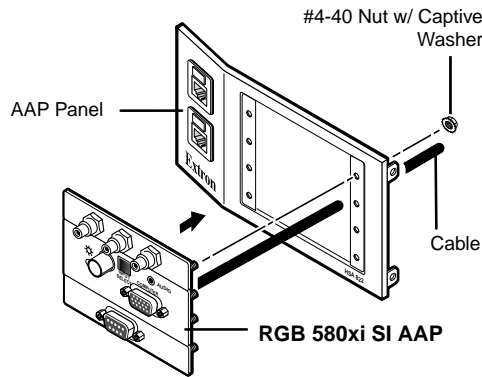

Figure 13. Mounting an AAP Device
4. Remove the AAP(s) that you no longer want from the AAP panel by unscrewing the nuts on the rear of the AAP panel that secure the AAPs in place (see figure 13).